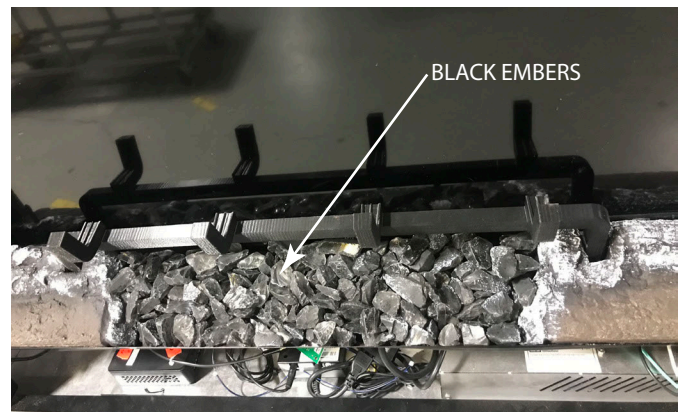

Figure 4.18 Install Black Embers
5. Place the black embers between the (2) base refractory pieces. The black embers should cover the orange fuel bed filter. See Figure 4.18.